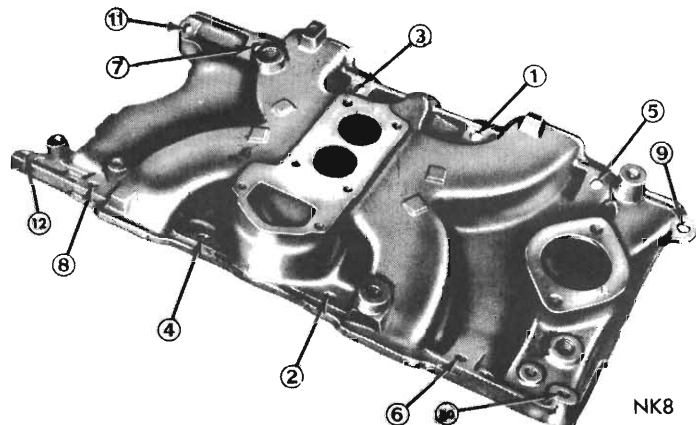

Fig. 3 - Intake manifold tightening sequence
(8) Cut the three inch strip of sealer material into four equal parts and install under cylinder head gasket lock tabs. Do not use sealer or cement.
(9) Position rubber seals over rails at front and rear of cylinder block. Centre hole in seals must engage dowel pins and end holes locked in tangs of head gasket.
(10) Coat intake manifold side gaskets lightly with part number AP100054 "Pink" sealer or equivalent. Install gaskets with the bead down.
(11) Position intake manifold on engine and install the twelve attaching cap screws "finger tight" in the tightening sequence shown in Fig. 3. Tighten cap screws one through four to 25 lbs. ft. and tighten remaining cap screws to 25 lbs. ft. then retighten cap screws one through four to 35 lbs. ft. and follow by retightening the remaining cap screws to 35 lbs. ft. in sequence shown.